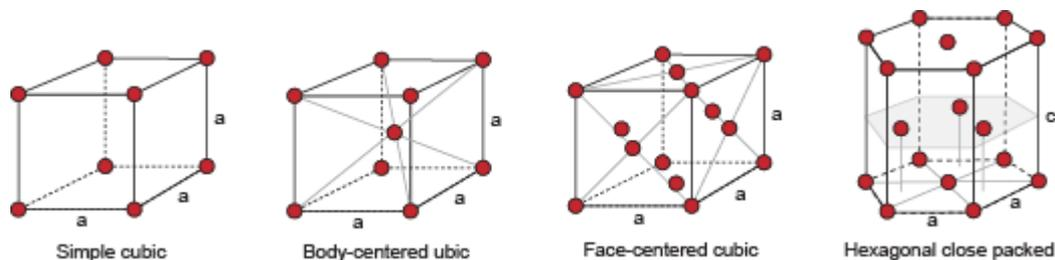

Figure C16 The four important lattices: simple cubic (SC), body-centred cubic (BCC), face-centred cubic (FCC) and hexagonal close packed (HCP).
**SUMMARY.** The important 3-dimensional lattices for engineering materials (Figure C16) are
They are shown in Figure C16.